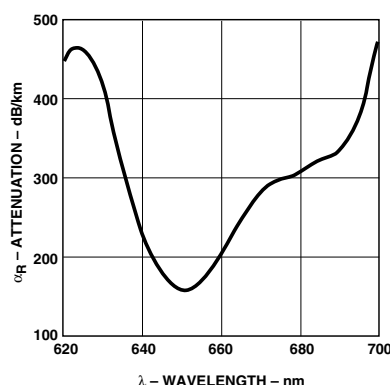

Figure 1. Typical POF attenuation vs. wavelength.
7. Note that α_R rises at the rate of about 0.0067 dB/ $^\circ\text{C}$, where the thermal rise refers to the LED temperature changes above 25°C . Please refer to Figure 1 which shows the typical plastic optical fiber attenuation versus wavelength at 25°C .